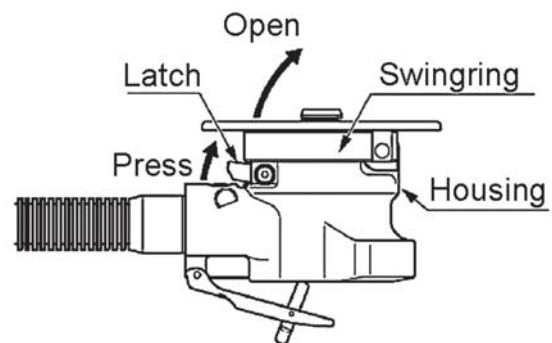

Fig.6
(2) How to replace the Indexable Inserts
- a. Pressing the Latch unlocks the Swinging and the Swinging opens in the direction of the arrow. (Fig.6)